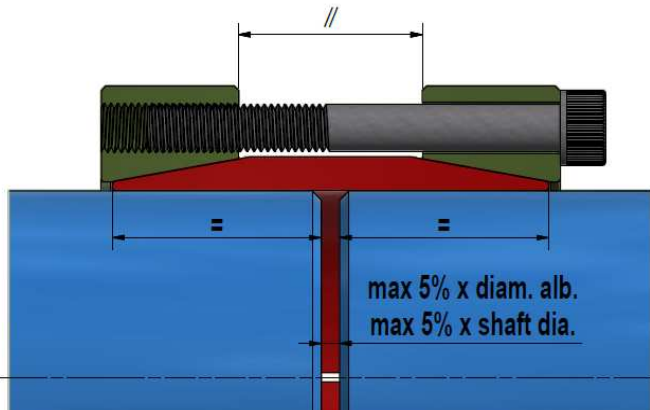
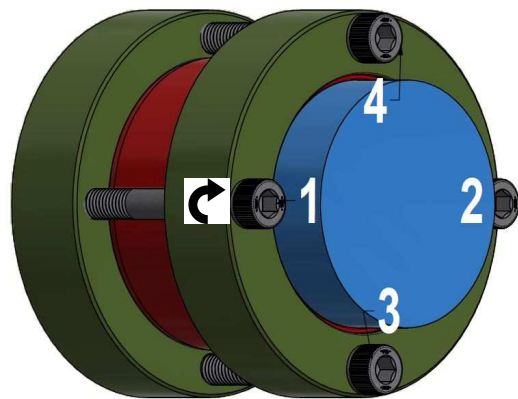

Fig. 2. Positioning of Rigid Coupling.
Fig. 3. Pre-tightening.
2. Move the Coupling onto the shafts, making sure that they are aligned. **Shaft engagement shall be equal for both ends; distance between shaft ends shall not exceed 5% of shaft diameter (fig. 2). Hand-tighten three or four evenly spaced screws (fig. 3) and make sure that outer rings are parallel; then hand-tighten remaining screws.**